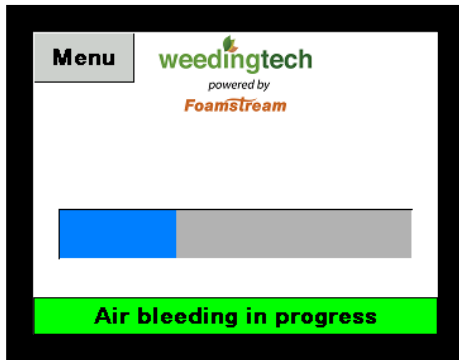

Figure 4 - Bleed screen of the PLC
- ✓ Once button '1' or '2' of **Error! Reference source not found.** is pressed the bleed screen represented in Figure 4 will appear.